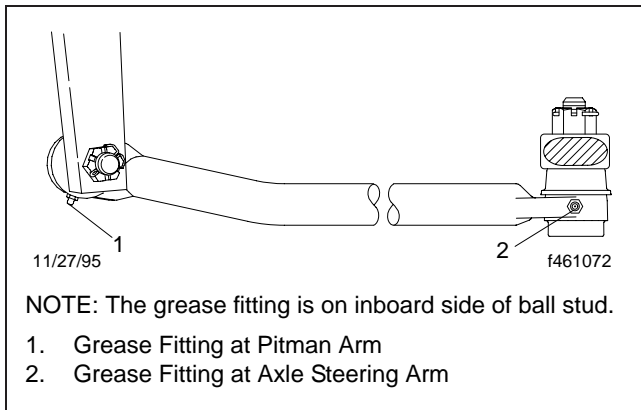

Fig. 2, Drag Link
1. Using a clean rag, wipe all dirt from both drag link grease fittings. See **Fig. 2**.